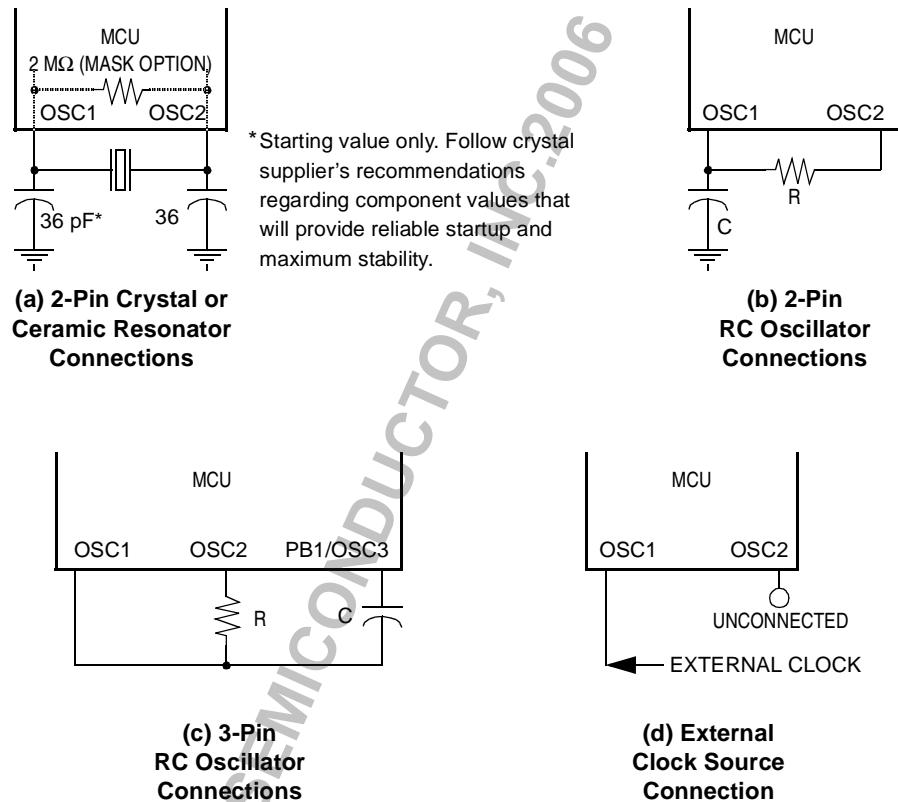

Figure 1-5. Oscillator Connections
1. A crystal, as shown in Figure 1-5\(a\)
2. A ceramic resonator, as shown in Figure 1-5\(a\)
3. An external resistor and capacitor using two pins, as shown in Figure 1-5\(b\)
4. An external resistor and capacitor using three pins, as shown in Figure 1-5\(c\)
5. An external clock signal, as shown in Figure 1-5\(d\)
The circuit in Figure 1-5\(a\) shows a typical 2-pin oscillator circuit for an AT-cut, parallel resonant crystal. The crystal manufacturer's recommendations should be followed, since the crystal parameters determine the external component values required to provide maximum stability and reliable startup. The load capacitance values used in the oscillator circuit design should include all stray capacitances. The crystal and components should be mounted as close as possible to the pins for startup stabilization and to minimize output distortion. An internal startup resistor of approximately 2 M Ω is provided between OSC1 and OSC2 when the crystal/ceramic resonator oscillator option is used.
In cost-sensitive applications, a ceramic resonator can be used instead of the crystal. The circuit in Figure 1-5\(a\) is designed for either a crystal or a ceramic resonator. The resonator manufacturer's recommendations should be followed, since the resonator parameters determine the external component values required for maximum stability and reliable starting. The load capacitance values used in the oscillator circuit design should include all stray capacitances. The ceramic resonator and components should be mounted as close as possible to the pins for startup stabilization and to minimize output distortion. An internal startup resistor of approximately 2 MΩ is provided between OSC1 and OSC2 for the crystal/ceramic resonator oscillator mask option.
The 2-pin RC oscillator configuration can be used for very low-cost applications. With this option, a resistor must be connected between the two oscillator pins and a capacitor must be connected from the OSC1 pin to V_{SS} , as shown in **Figure 1-5(b)**. The signal on the OSC2 pin is a square wave and the signal on the OSC1 pin approximates a triangular wave.
Another low cost, but more accurate, type of RC oscillator is the 3-pin configuration utilizing the PB1/OSC3 pin. With this option, a resistor must be connected between the OSC1 and OSC2 pins and a capacitor must be connected between the OSC1 and PB1/OSC3 pins, as shown in **Figure 1-5(c)**. This 3-pin RC oscillator is more accurate than the 2-pin RC oscillator with respect to temperature, supply voltage, and/or device processing variations. The signal on the OSC2 and PB1/OSC3 pins is a square wave and the signal on the OSC1 pin approximates a triangular wave.
An external clock from another CMOS-compatible device can be connected to the OSC1 input, with the OSC2 input not connected, as shown in Figure 1-5\(d\). This configuration is possible regardless of whether the oscillator is set up for crystal/ceramic resonator, 2-pin RC, or 3-pin RC operation. However, if the 3-pin RC oscillator is selected, the PB1/OSC3 pin also must be left unconnected.